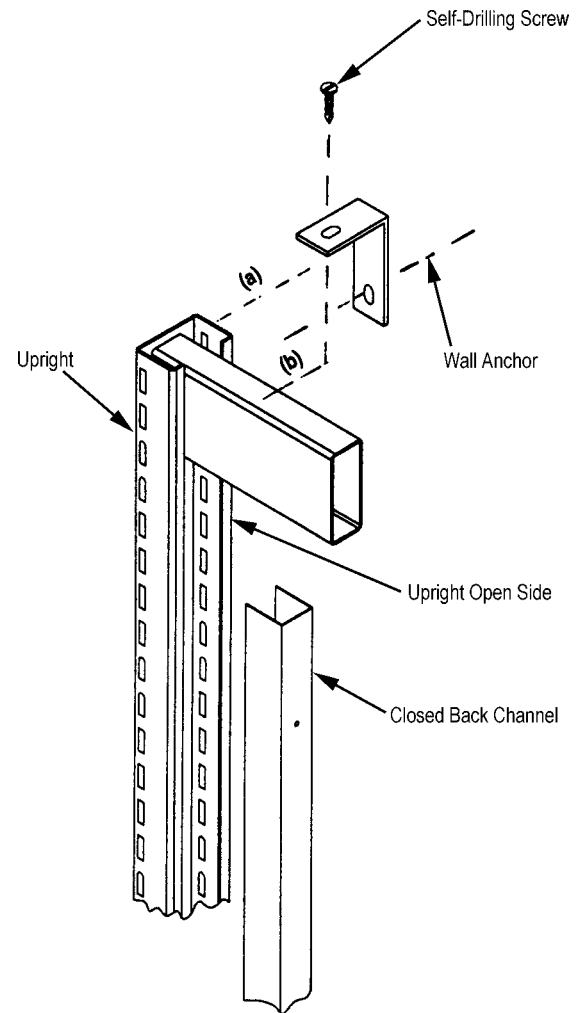

FIGURE 12
8. Attach angles to frames from the top down with a self-drilling screw (not provided). See Figure 12.